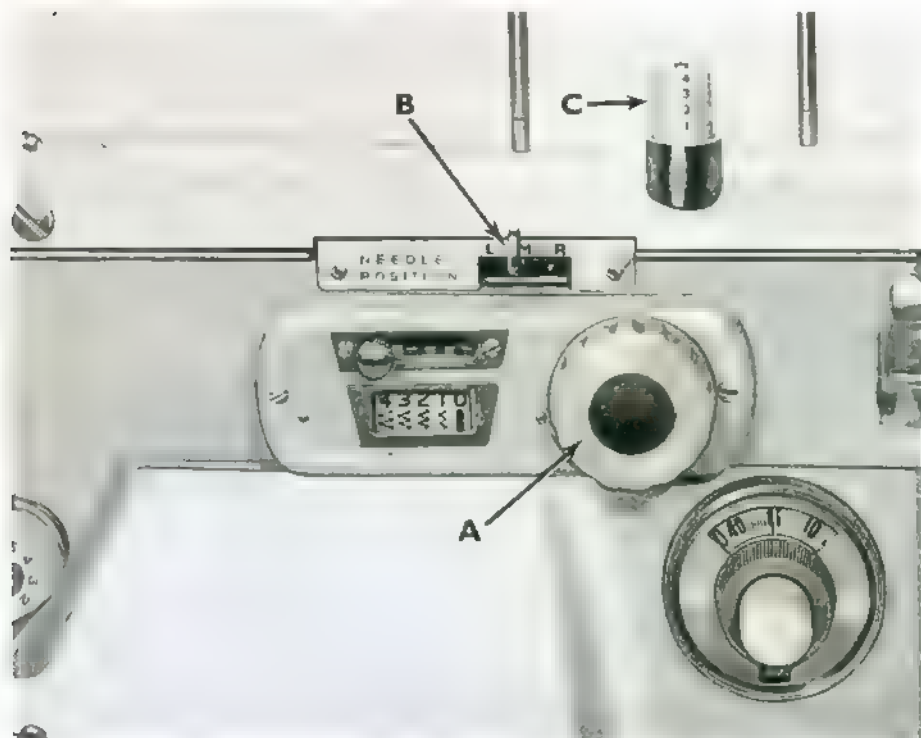

FIG. 27
- (a) The zig-zag stitch regulator knob A (Fig. 27).
- (b) The needle position lever B (Fig. 27).
- (c) The zig-zag stitch regulator press button C (Fig. 27).
For all close patterns set the dial-a-stitch knob D (Fig. 27) as close to 0 as possible, still allowing the material to feed through slowly.